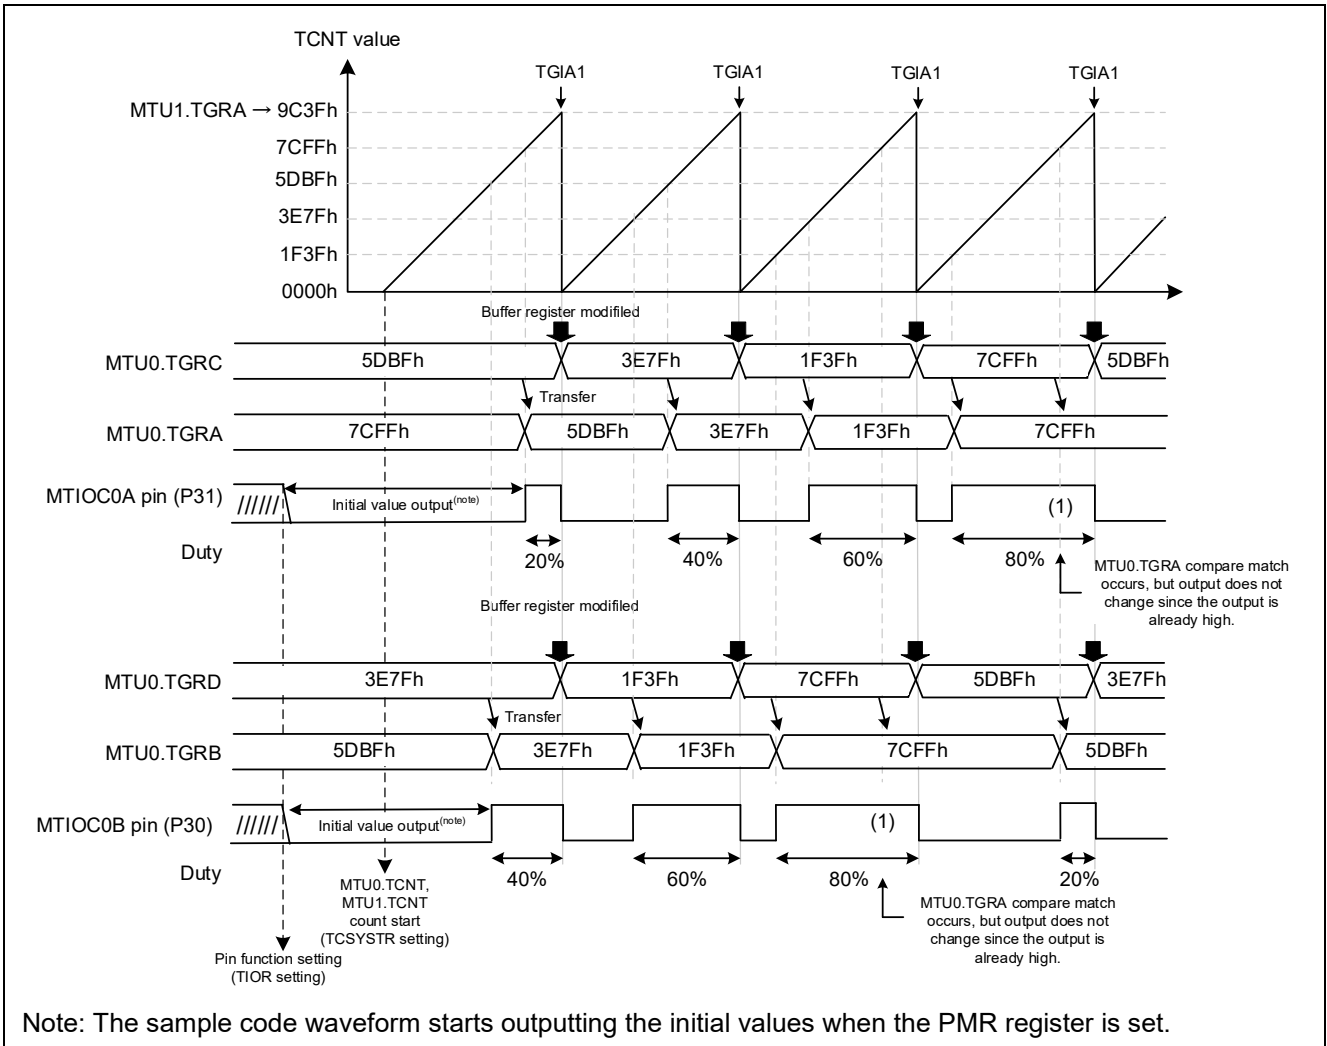

Figure 3.23 Sample Code Operations
- Refer to Figure 3.23 for details on the timing for duty cycle changes
The sample code operations are shown in Figure 3.23. The settings of the duty cycle are changed with each period by modifying the values of buffer registers MTU0.TGRC and MTU0.TGRD at the compare match interrupt (TGIA1) of period register MTU1.TGRA. The MTU0.TGRC and MTU0.TGRD values are transferred to duty registers MTU0.TGRA and MTU0.TGRB when a compare match occurs.
For details, refer to (1) in Figure 3.23.